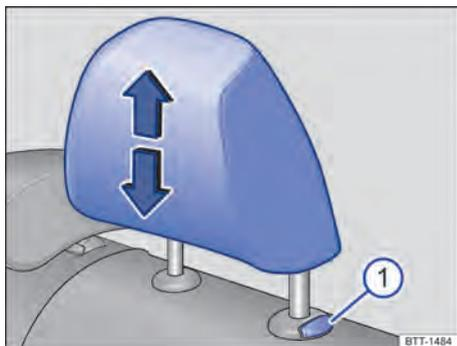
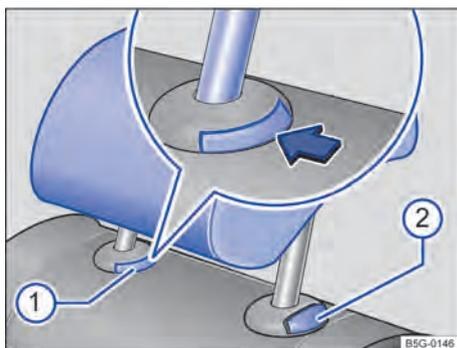

Fig. 79 On the outer rear seats: Removing the head restraint
Fig. 80 On the centre rear seat: Removing the head restraint
2. Pull the head restraint out fully while pressing the button → Fig. 79  or → Fig. 80 .
2. Press and hold the button → Fig. 79  or → Fig. 80  and push down the head restraint.